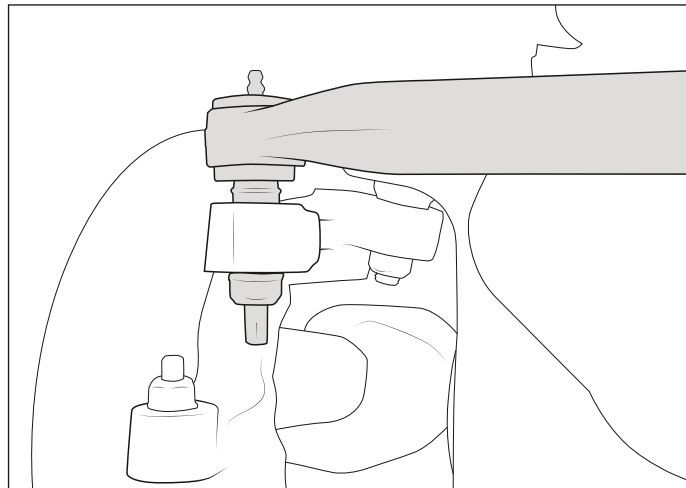

Figure 38
21. Install outer draglink stud into tapered insert on knuckle, install provided nut from the bottom, and torque nut to 100-110ft-lb (fig. 38).